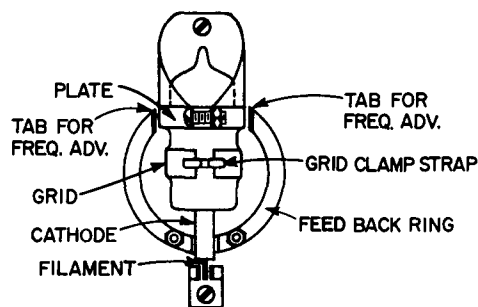

Figure 6. Installation Detail of Oscillator Tube.
4.2 INSTALLATION OF OSCILLATOR TUBE. When it is necessary to replace the Type RT-434 oscillator tube, install the new tube as follows (See Figure 6):